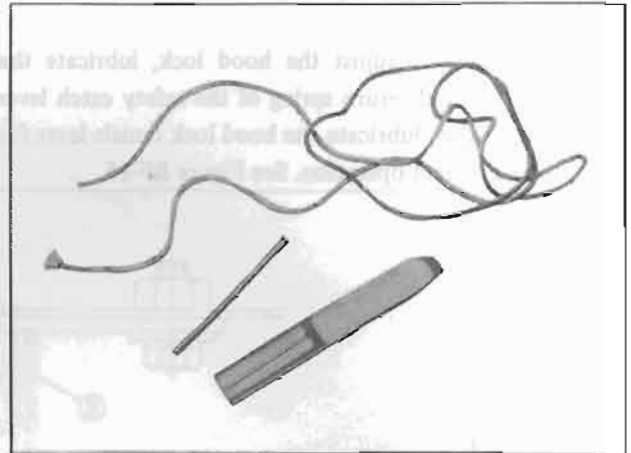

Fig. BF-18 Tools for installation of windshield glass
1. For the installation, use string and spatula shown in Figure BF-18.